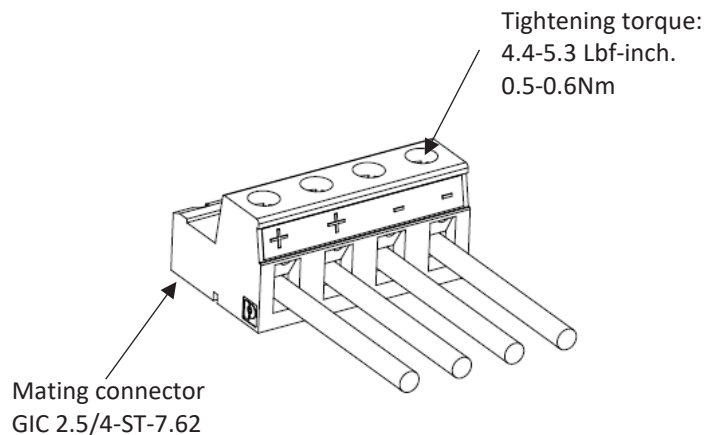

Figure 4-69: Four Wires Connection to The Output Plug
2. Insert the stripped wires into the terminals and tighten the terminal screws securely (see Figure 4-69). Tightening torque: 4.4-5.3 Lbf-inch. (0.5-0.6Nm).